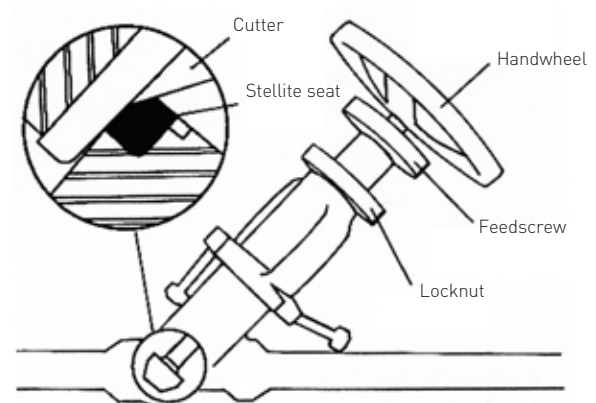

FIGURE 6
1. Insert tool assembly, engaging feed screw threads with yoke threads per Figure 6.